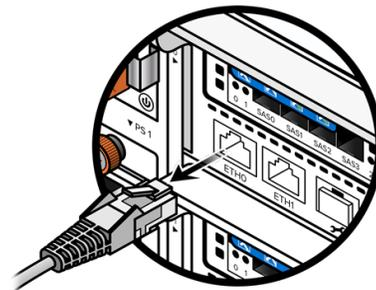

Figure 10-7. Disconnecting 1-GbE Cables
1. Attach a temporary label to the 1-GbE cables in port **ETH0** and **ETH1**. See Figure 10-7.